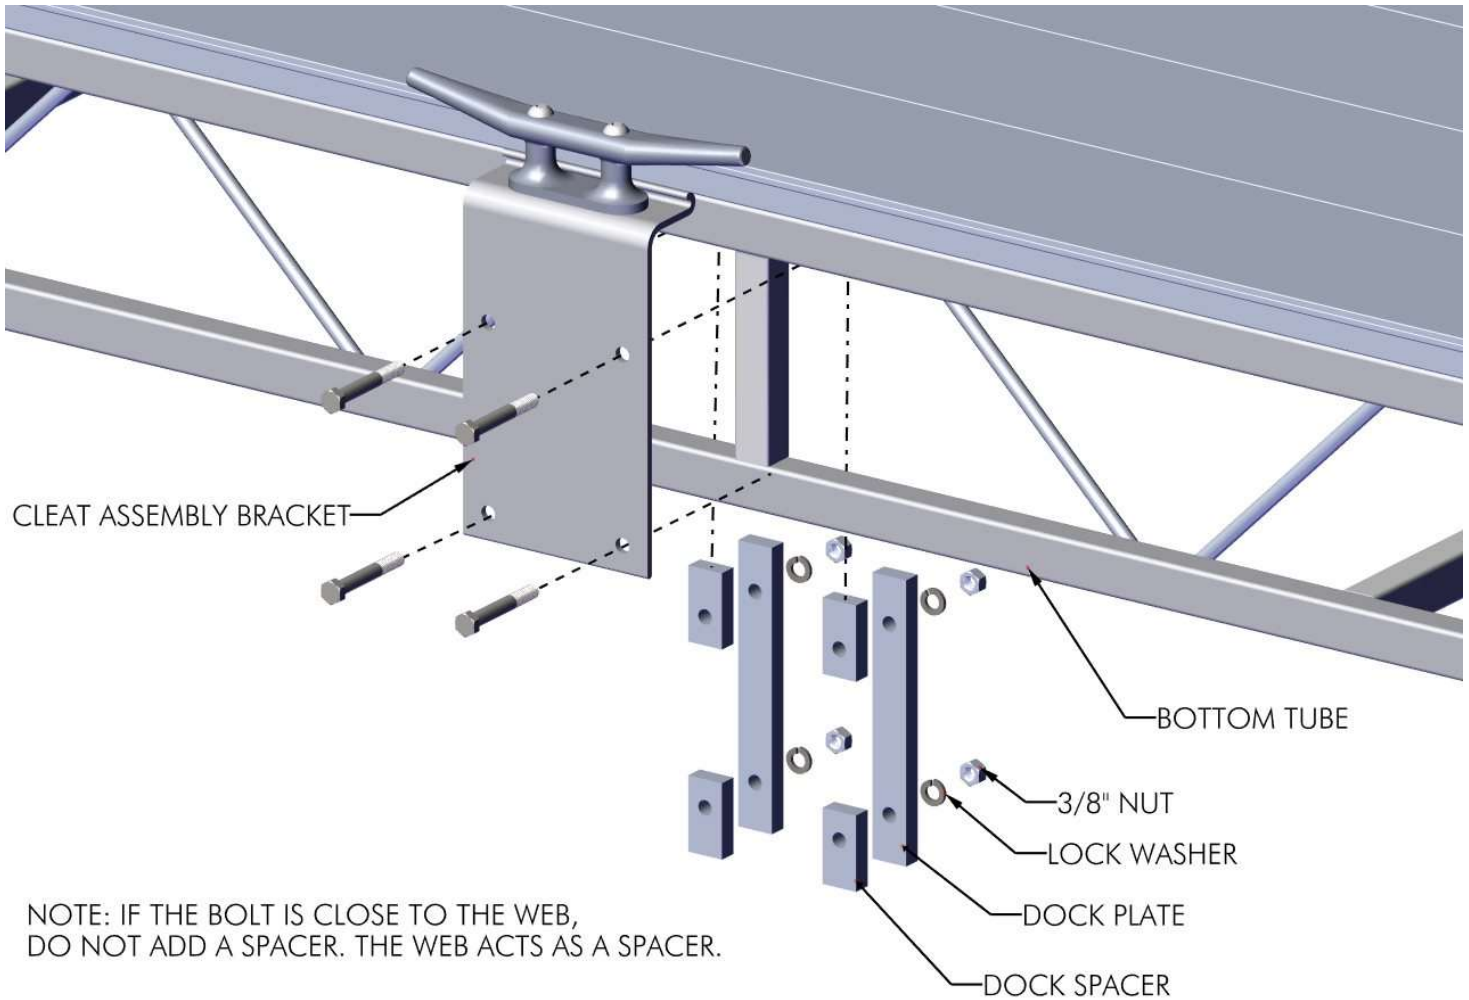

FIG. 1
DETERMINE DESIRED LOCATION FOR THE DOCK CLEAT. INSERT THE 3/8" X 2-3/4" BOLTS THROUGH THE CLEAT BRACKET ASSEMBLY AND THROUGH THE (4) DOCK SPACERS, PLATES, LOCK WASHERS, AND ALUMINUM NUTS ON THE OPPOSITE SIDE OF THE DOCK SIDE (FIGURE 1).